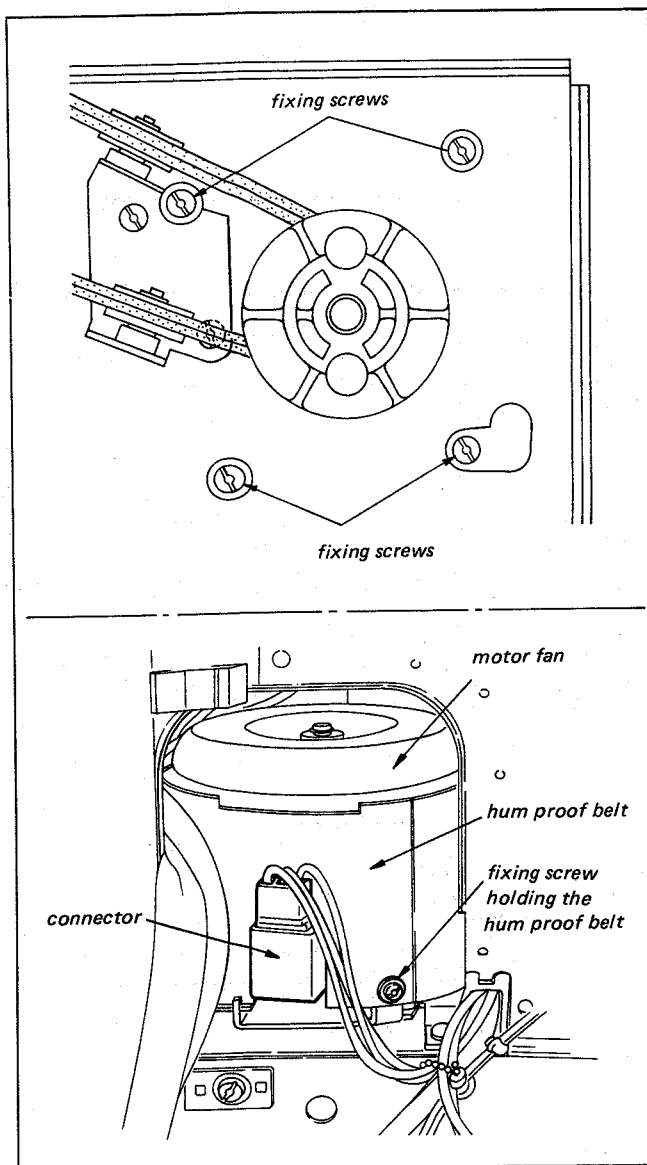

Fig. 3-3. Replacement of AC motor
3. Remove the motor pulley stopper from the defective motor and install it to the new motor as shown in Fig. 3-3.